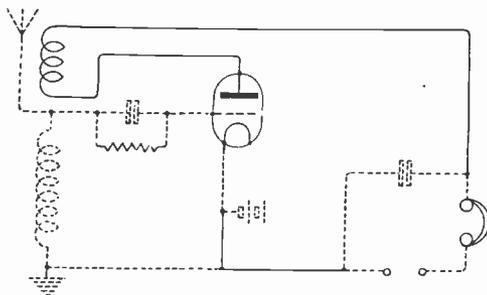

Fig. 3.
(3) With H.T. on switch L.T. on and off. A click at "on" and another louder one at "off" should be heard. No result means a dis. in the circuit shown with a full line in Fig. 3. Examine connections of reaction coil and open plate pin of valve. If this does not clear the fault change the valve.